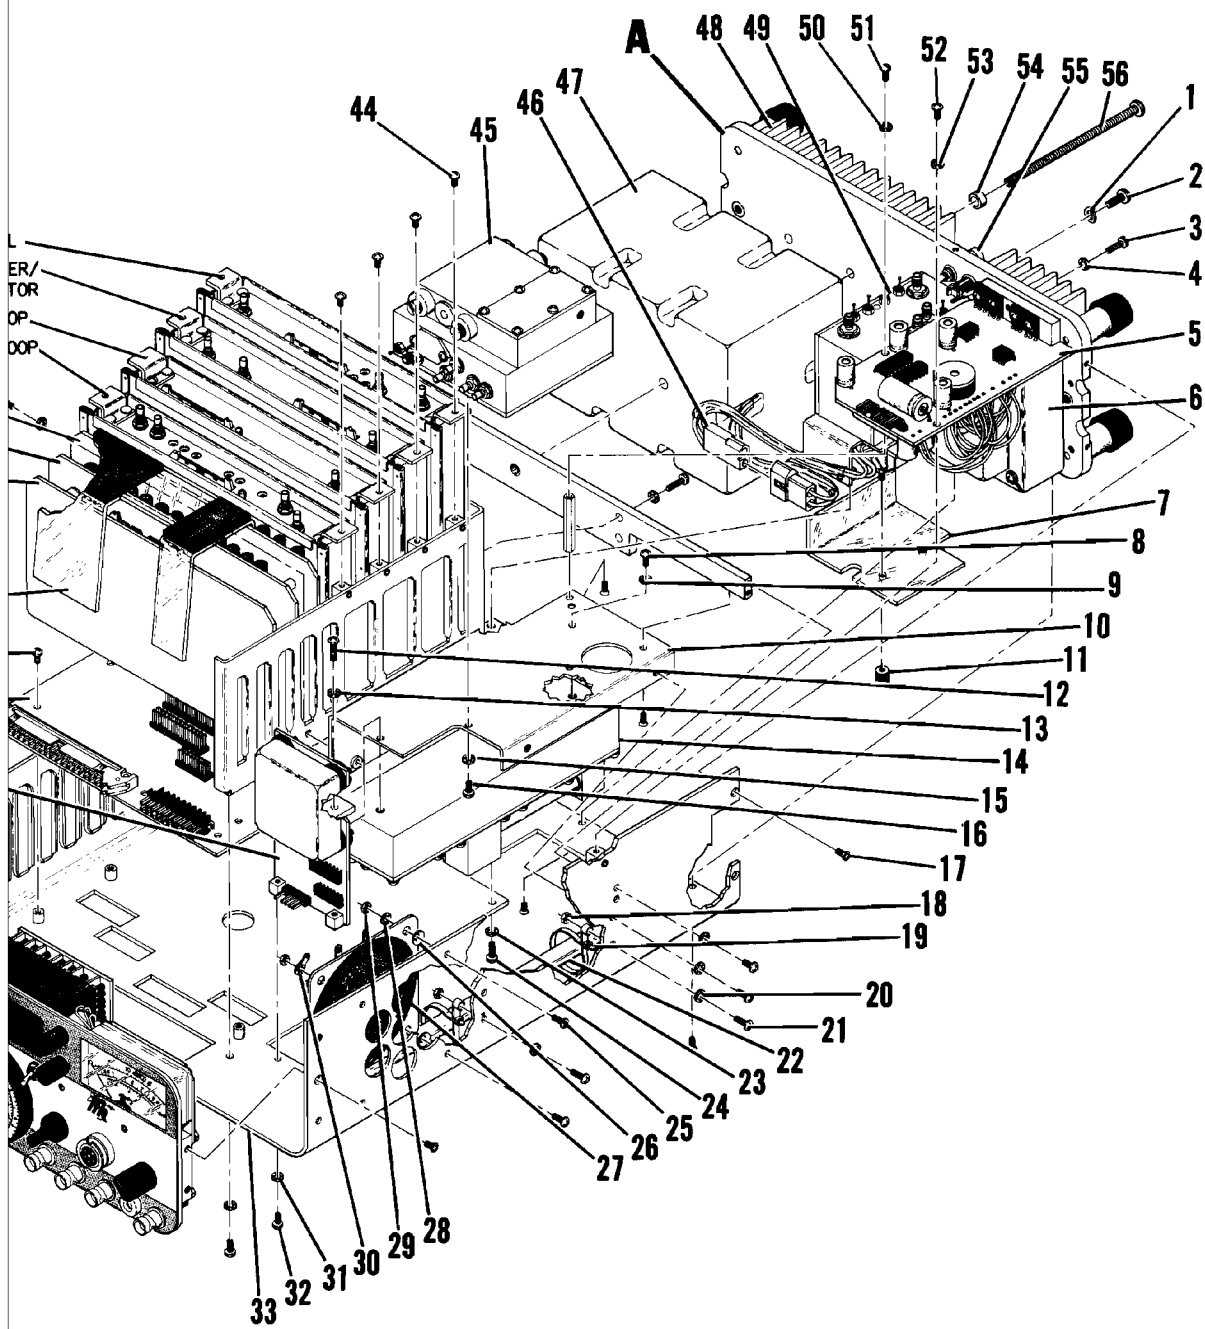

Figure 6-2 FM/AM-500A Composite Assembly
This section contains instructions that are necessary to remove and disassemble modules within the FM/AM-500A. Case removal (para. 6-2-1) is a prerequisite for all module removals. Most module removals are reflected in Figure 6-2, Composite Disassembly. However, due to the complexity of the composite, further details of module disassembly are shown on individual disassembly drawings for specific modules.
##### A. Removal (Figure 6-2)
##### A. Removal (Figure 6-2, Detail A)
1. Remove Dual VCO (14) (paragraph 6-2-13).
2. Remove 1120 MHz Low Pass Filter (22) (paragraph 6-2-6).
3. Tag and unsolder wires from two terminals on Speaker (27).
4. Remove four nuts (29), three lock washers (28), one terminal lug (30), four compression washers (26) and four screws (25) attaching Speaker (27) to chassis (33). Lift Speaker from chassis.
#### 6-2-8 MOTHER BOARD (39) (Figure 6-2)
1. Remove Audio PC boards (42) (paragraph 6-2-9).
2. Remove Enclosed Modules (43) (paragraph 6-2-10).
3. Remove Front Panel (35) (paragraph 6-2-15).
4. Tag and unsolder wires in wire harness (not ribbon cables) from Mother Board (39).
5. Remove four screws (40) attaching Mother Board (39) to chassis (33).
A. Removal (Figure 6-2)
### A. Removal (Figure 6-2)
1. Remove Battery (47) (paragraph 6-2-2), if installed.
2. Disconnect four semi-rigid coax connectors from Output Amplifier (49).
3. Disconnect J5106 on Output Amplifier (49) from P5106.
4. Remove two screws (2) and lock washers (1) attaching Output Amplifier (49) to Rear Panel (48).
5. Slide Output Amplifier (49) into battery well and lift from chassis (33).